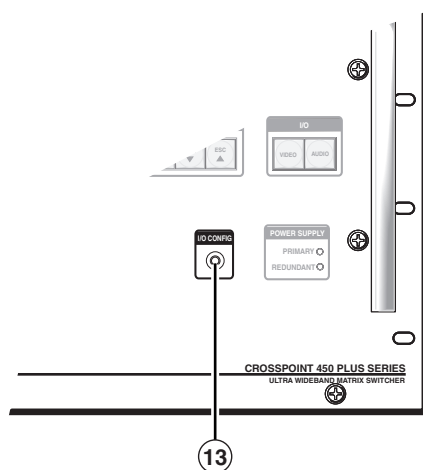
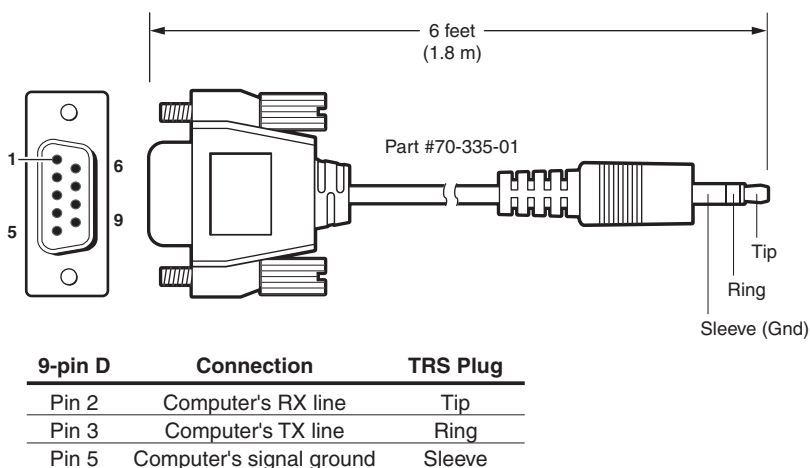

Figure 2-14 — Front panel configuration port
Figure 2-15 — Optional 9-pin TRS RS-232 cable
- ⑬ **Configuration port** — This 2.5 mm mini stereo jack (figure 2-14) serves the same serial communications function as the rear panel Remote port, but it may easier to access. The optional 9-pin D to 2.5 mm stereo mini TRS RS-232 cable, part #70-335-01 (figure 2-15) can be used for this connection.